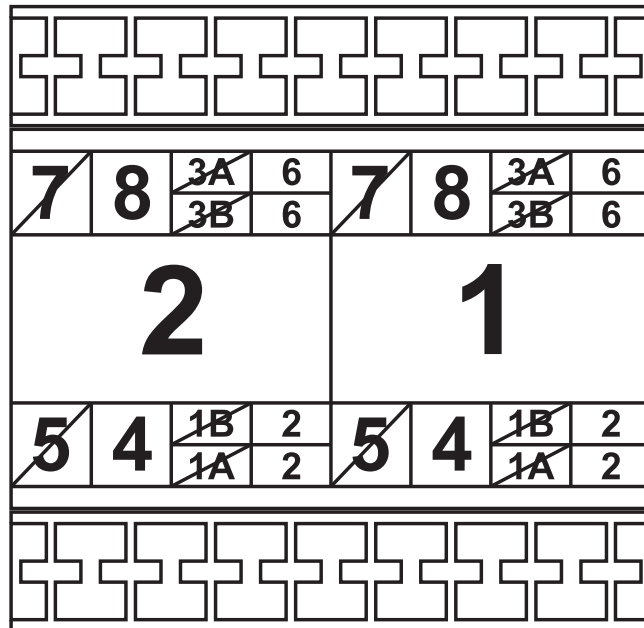

Figure 1. Color codes for T568A/TS568B wiring on the wiring label.
3. Next, punch down the cable. Place each wire pair next to the appropriate wiring color/label. Refer to Figures 1 and 2 for T568A and T568B color codes.